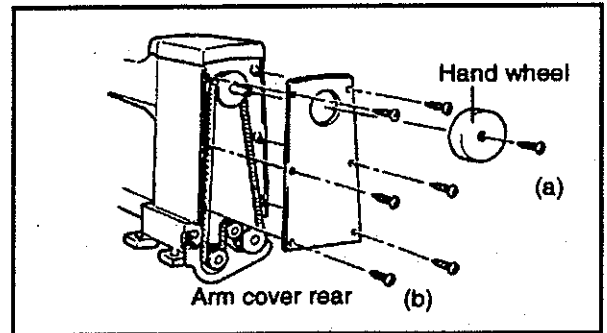

FIG.1
- (3) Remove six retaining screws (b) and then the arm cover rear (Fig.1).